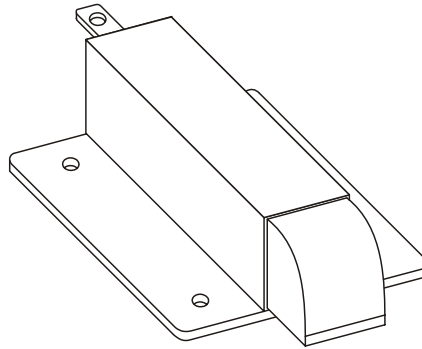

Figure 10 Slam Latch
- 28.** Remove slam latch (see Figure 10):